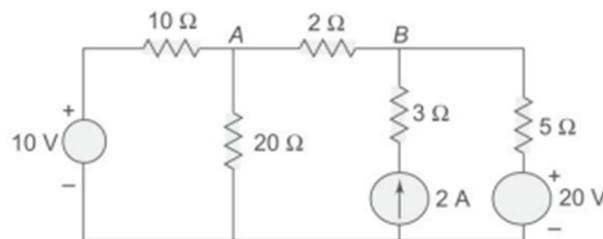

Figure 3
**Example 1: Find the voltage across the 2 V resistor in Fig. 3 by using the superposition theorem.**